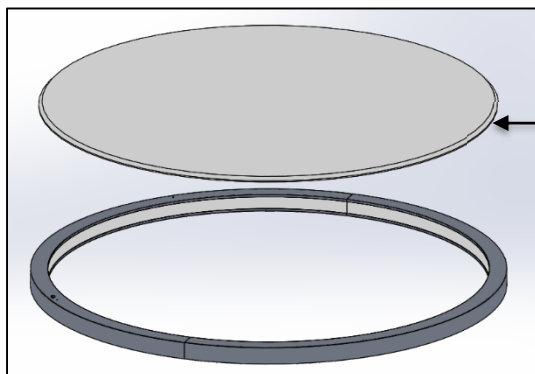

FIG. 25 - RV1 (INNER ILLUMINATION) (WITH ACOUSTIC PANEL SHOWN)
17. If there is option for Acoustic Panel, place the Acoustic part above the fixture body such that it is eventually balanced and assembly concentrically to the axis of fixture body as shown in FIG. 25 and 26 below for both RV1 and RV2 Series.